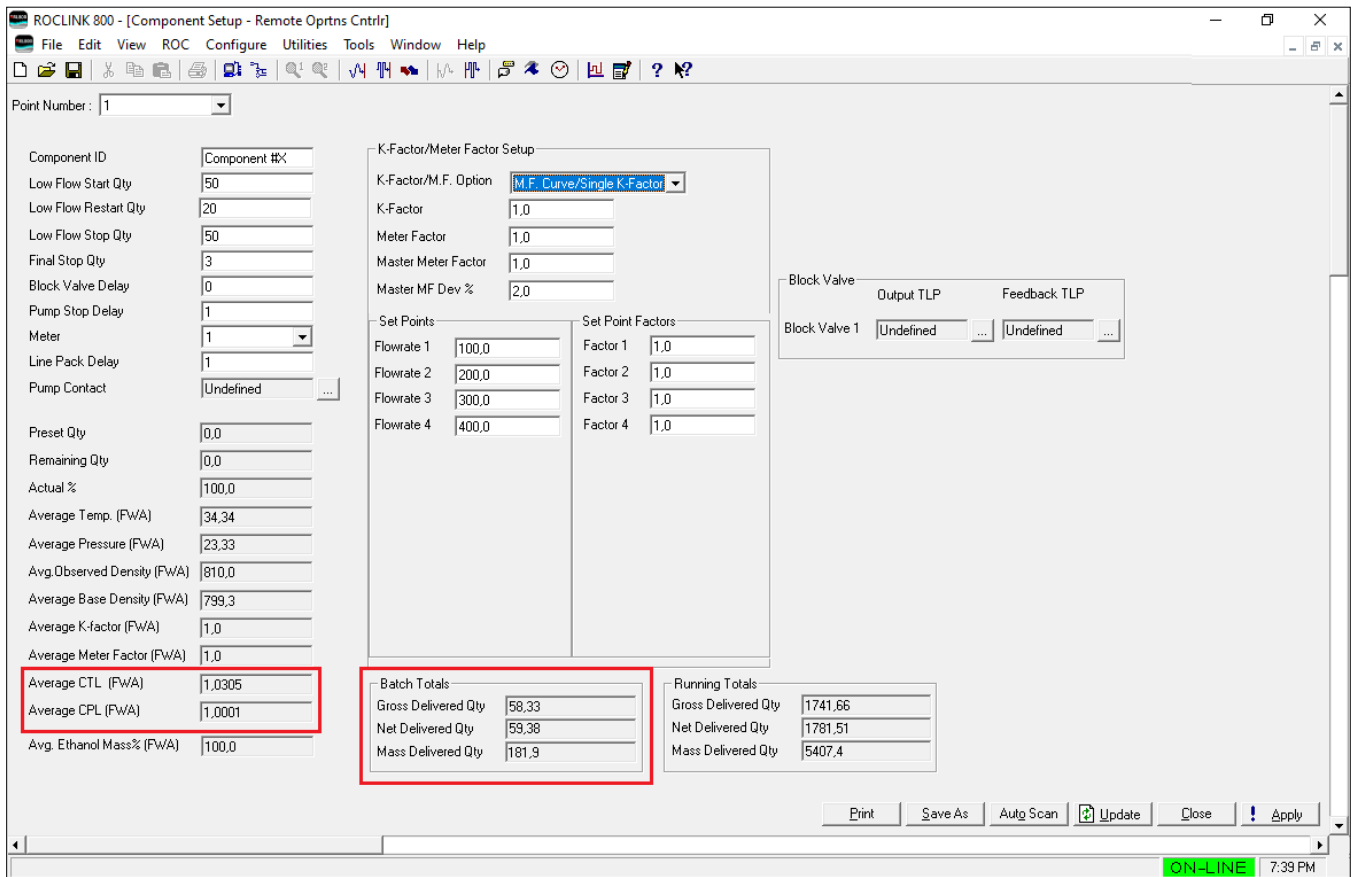

Figure E-29. Component Setup Screen, Rounded Totals
2. Check again the Volume Correction Factors totals. See *Figure E-29*.